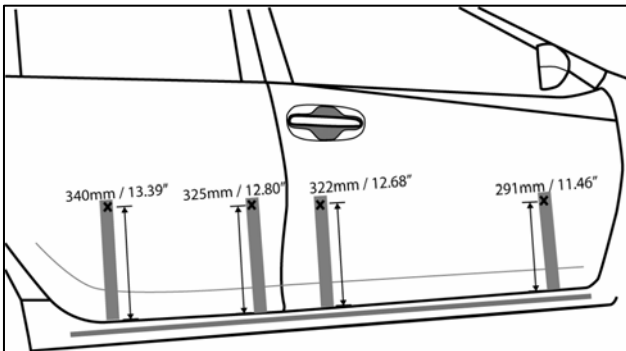

Fig. 2-4
- ⚠ (c) Mark the vertical pieces of tape as shown (Fig. 2-4). Measurements are taken from the bottom of the door sheet metal.